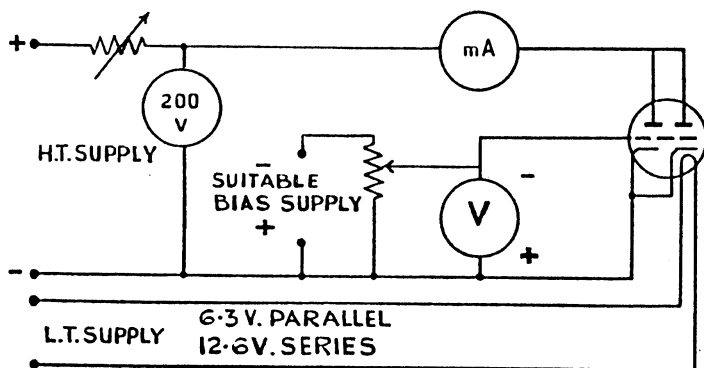

FIG. 12.
5. The valve should be connected as shown in Fig. 12.